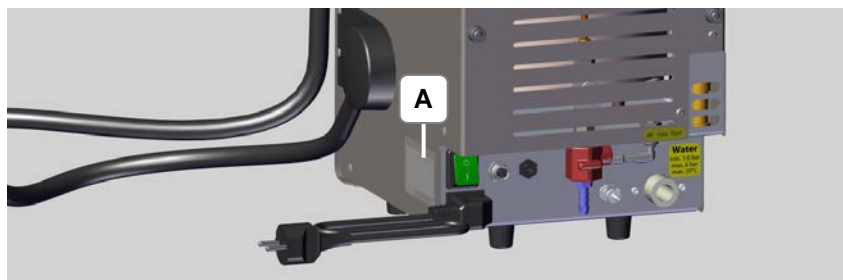

Figure 4.1: Nameplate (on the side of the unit)
- Nameplate** Connect the device to a suitable mains supply plug socket. The technical data on the nameplate (Figure 4.1-A) must correspond fully with the available connecting conditions, in particular mains voltage and current connected load.